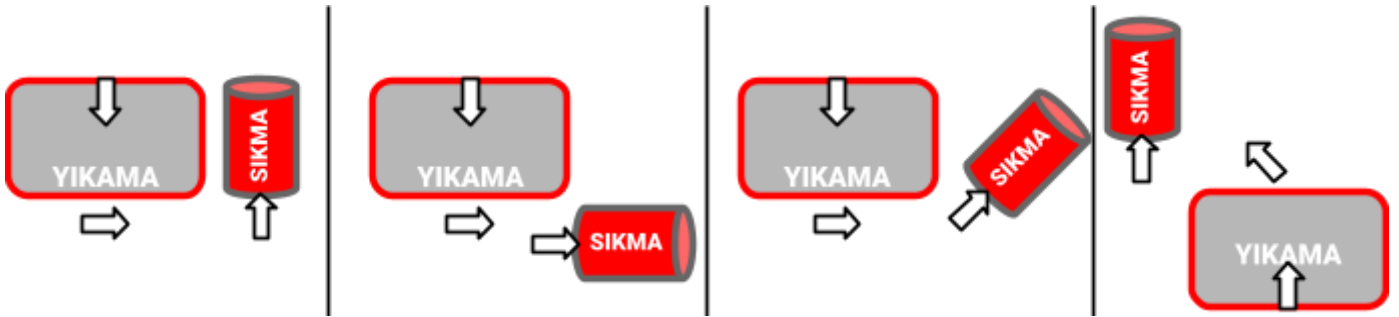

Figure 6 (Machine Positioning Diagram)
- 3.1. Carpet wrapping direction is wrong. Adjust clockwise. See Figure 6.